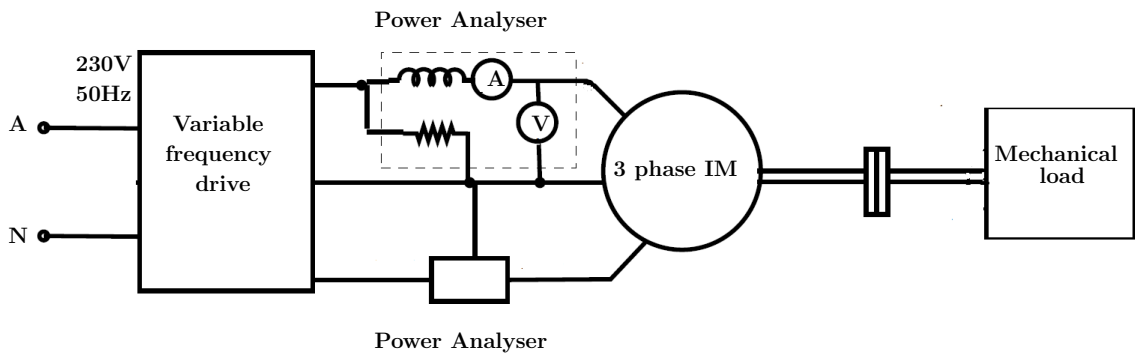

Figure 5: Circuit diagram for V/f control
- A. Connect the circuit as shown in figure 5.